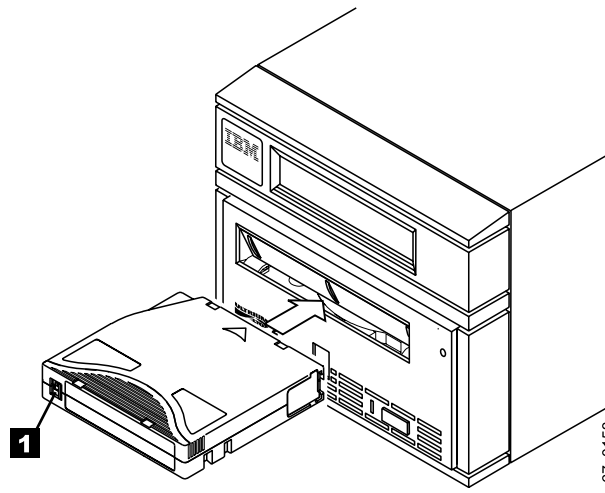

Figure 6. Inserting a cartridge into the 3580 Ultrium 2 Tape Drive
2. Ensure that the write-protect switch ( **1** in Figure 6 on page 21) is properly set (see “Setting the Write-Protect Switch” on page 30).
4. Slide the cartridge into the tape load compartment (see Figure 6 on page 21). The cartridge loader draws the cartridge into the tape drive and the following message appears on the message display:
To clean the head, insert the cleaning cartridge into the tape load compartment (see Figure 6 on page 21). The tape drive performs the cleaning automatically. The cleaning cycle takes less than 2 minutes. When the cleaning is finished, the drive ejects the cartridge.
With each 3580 Ultrium 2 Tape Drive, a specially labeled IBM LTO Ultrium Cleaning Cartridge is supplied to clean the drive heads. The drive itself determines when a head needs to be cleaned. It alerts you by displaying **C** on the single-character display. To clean the head, insert the IBM LTO Cleaning Cartridge into the tape load compartment (see Figure 6 on page 21). The tape drive performs the cleaning automatically. When the cleaning is finished, the drive ejects the cartridge.